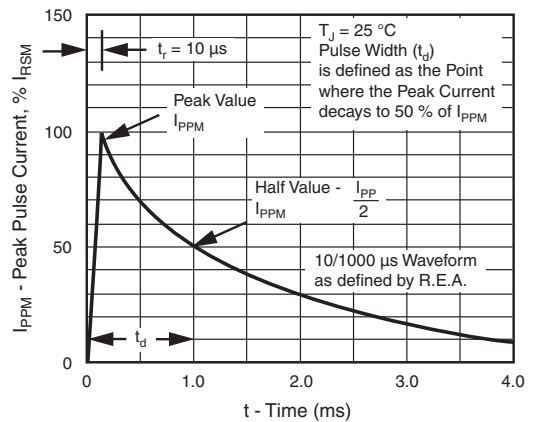

Fig. 3 - Pulse Waveform
- (1) Non-repetitive current pulse, per fig. 3 and derated above  $T_A = 25$  °C per fig. 2
- (1) Pulse test: tp ≤ 50 ms
- (2) Surge current waveform per fig. 3 and derate per fig. 2
- (3) For bi-directional types with VWM of 10 V and less the ID limit is doubled
- (4) All terms and symbols are consistent with ANSI/IEEE CA62.35
- (5) Underwriters laboratory recognition for the classification of protectors (QVGQ2) under the UL standard for safety 497B and file number E136766 for both uni-directional and bi-directional devices